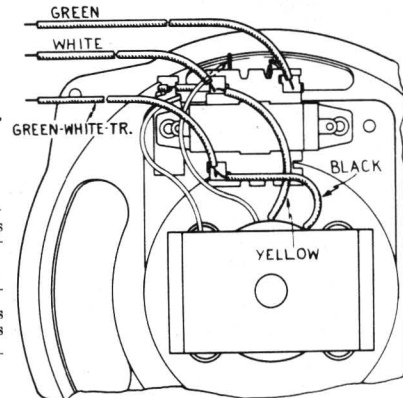
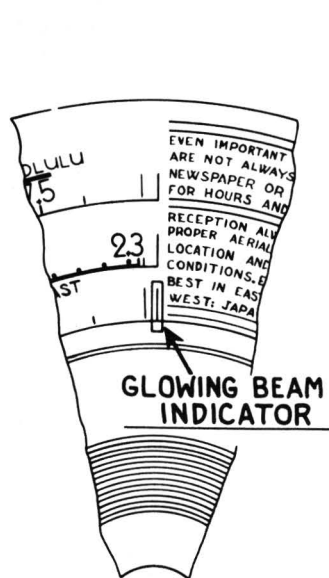
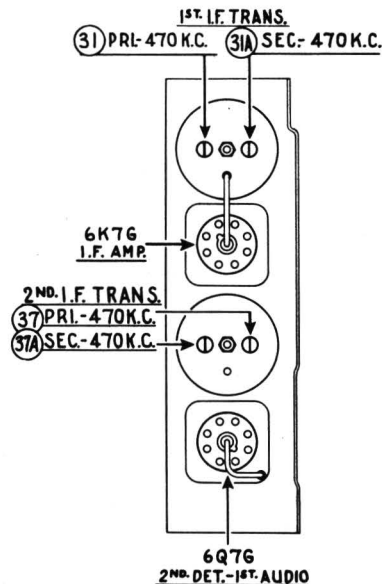

**Fig. 1. Socket Voltages Measured from Socket Contact to Ground Underside of Chassis View**
Fig. 2—Dial Calibration
Fig. 3—Locations of I. F. Compensators
Fig. 1 shows the Voltage measurements taken from the bottom of the socket at each contact. In Fig. 2, the correct position of the dial indicator, for proper adjustment of the compensator condenser is shown. Fig. 3 and 4 are the locations of the I. F. and R. F. compensators respectively.
Philco Fibre Handle Screw-driver No. 27-7059 completes the necessary equipment for these adjustments. The locations of the various compensators are shown in Figs. 3 and 4.
**Dial Calibration**—In order to adjust this receiver correctly, the dial must be aligned to track properly with the tuning condenser. To do this, rotate the tuning condenser control to the extreme counter-clockwise position (maximum capacity). Loosen the screw of dial hub, then turn dial until the glowing indicator is centered on the first index line of dial scale (see Fig. 2). Now tighten the dial hub set screw in this position.